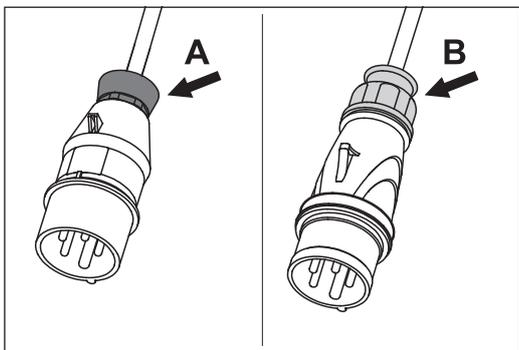

Fig. 20 Original LÄGLER® plug with **red** nut (A) or **yellow** nut (B).
- 2 Original LÄGLER® plug with **red** nut at the cable outlet (fig. 20, A):
- Original LÄGLER® plug with **yellow** nut at the cable outlet (fig. 20, B):